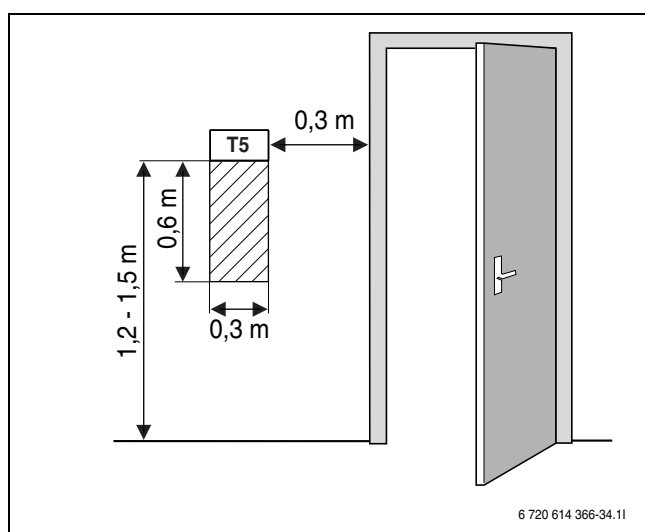

Fig. 14 Recommended installation location for room sensor T5
- Unimpeded circulation of room air under room sensor T5 (dotted area in figure 14 must be kept clear).